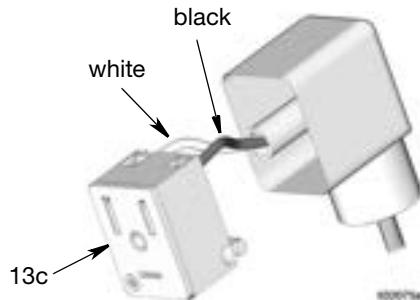

**FIG. 6**
8. Loosen screw (13a) on the back of the mini DIN solenoid connector (14a) and disconnect it from the solenoid connector (14a) (FIG. 6).